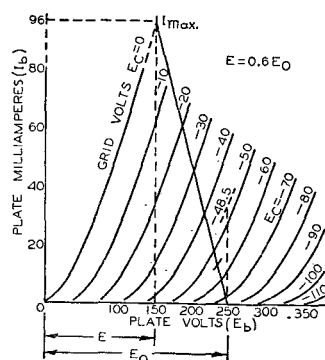

Fig. 21
**Power output for triodes in push-pull power amplifiers** may be determined by means of the plate family, given  $E_0$  as the desired operating plate voltage. The method is to erect a vertical line at  $E = 0.6 E_0$  (see Fig. 21), intersecting the  $E_c = 0$  curve at the point  $I_{max}$ . This establishes  $I_{max}$ . Then,
Fig. 21 illustrates the application of this method to the case of two type 45's operated at  $E_0 = 250$  volts.
plate-to-plate load for two triodes in a class A push-pull amplifier. From the curves in Fig. 21, we have